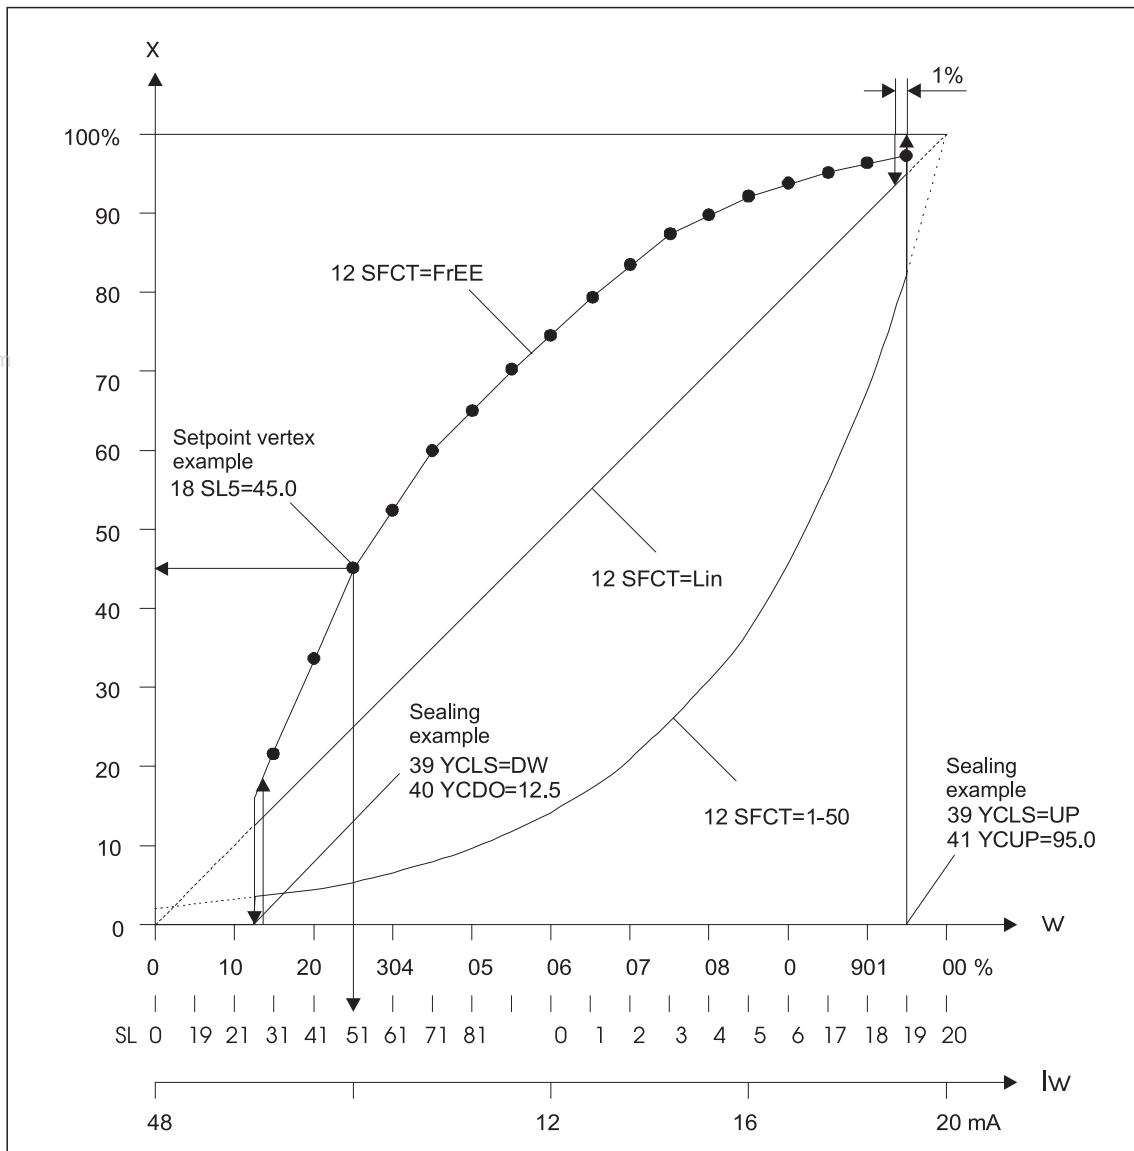

Figure 4-8 Setpoint characteristic, manipulated variable standardization and tight sealing function
- 12.SFCT Setpoint function (see figure 4-8, page 83)
Setpoint vertex points (see figure 4-8, page 83)
Manipulated variable limiting start (see figure 4-8 and 4-9) and
Manipulated variable limiting end (see figure 4-8 and 4-9)
Manipulated variable standardization (see figure 4-8 and 4-9)
Manipulated variable sealing (see figure 4-8, page 83)